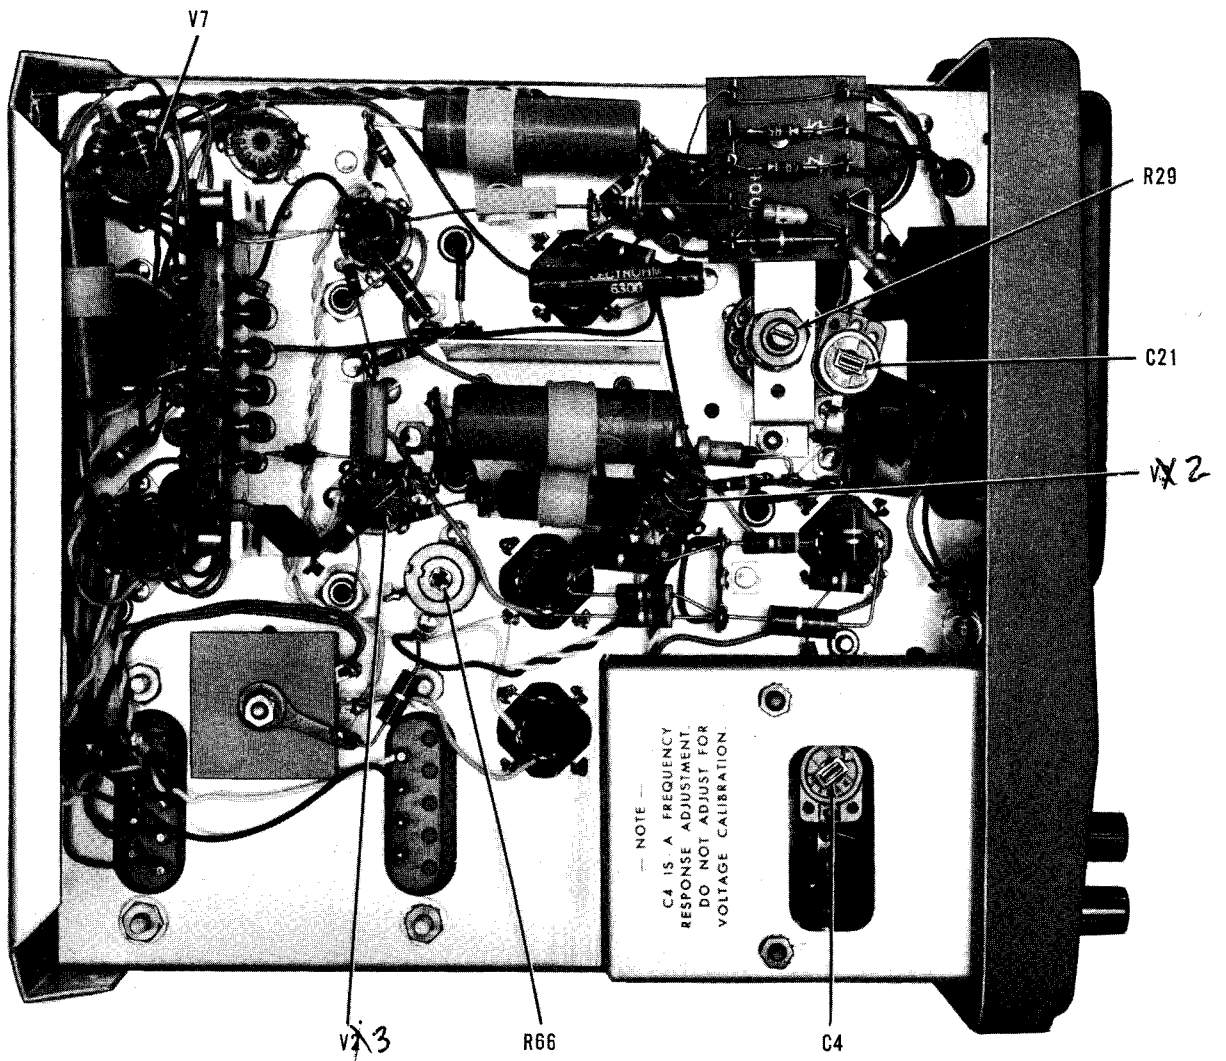

FIGURE 2. VACUUM TUBE VOLTMETER - LEFT SIDE VIEW.
7.1 Connect the 801 voltmeter to pin 1 of V7 (fig. 2). The voltmeter should indicate between 245 and 255 vdc. Null the 801 voltmeter.
7.6 Connect the 801 voltmeter to pin 3 of V3 (fig. 2). The voltmeter should indicate between 12.4 and 12.8 vdc. Adjust R66 (fig. 2) for a 12.6-volt indication on the 801 voltmeter.
7.7 Connect the 801 voltmeter to pin 4 of V2 (fig. 2). The voltmeter should indicate between 6.1 and 6.5 vdc. Disconnect the voltmeter.
9.5 Adjust the 738AR calibrator for a 0.3-volt rms output. Adjust R29 (fig. 2) for a full-scale indication of 0.3 volts.
10.4 Adjust the output frequency of the 739AR test set to 4 mc. Adjust C21 (fig. 2) for a 0.098-volt indication on the 400H
Adjust C4 (fig. 2) until the 400H indicates 0.98 volt.